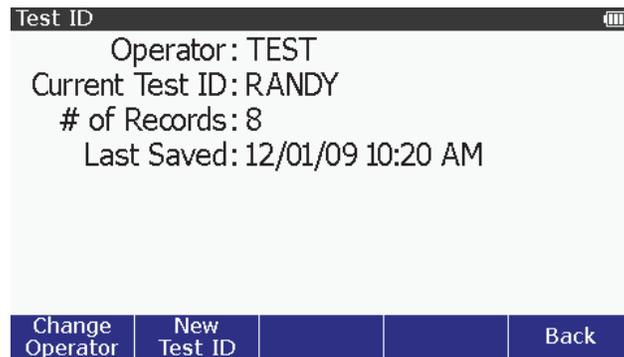

Figure 51. Operator ID Screen
3. Push **ENTER** to open the Test ID screen shown in Figure 51.